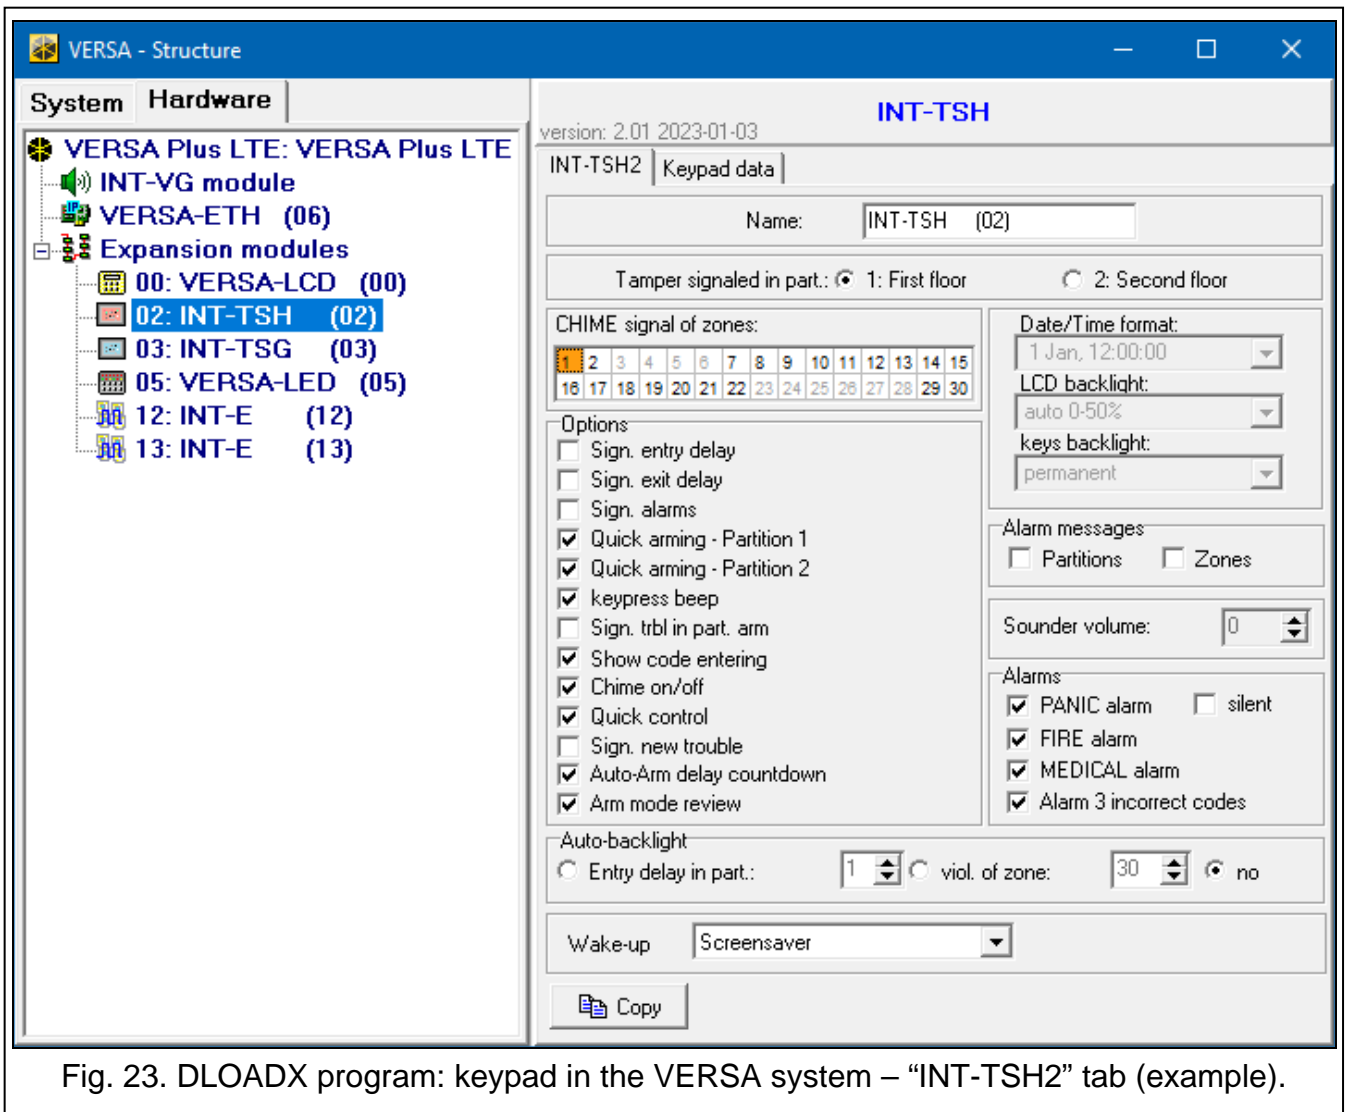

Fig. 23. DLOADX program: keypad in the VERSA system – “INT-TSH2” tab (example).
- DLOADX program: →"VERSA – Structure" window →"Hardware" tab →"Expansion modules" branch →[keypad name] (Fig. 23). Required program version: 1.21.000 (or newer).